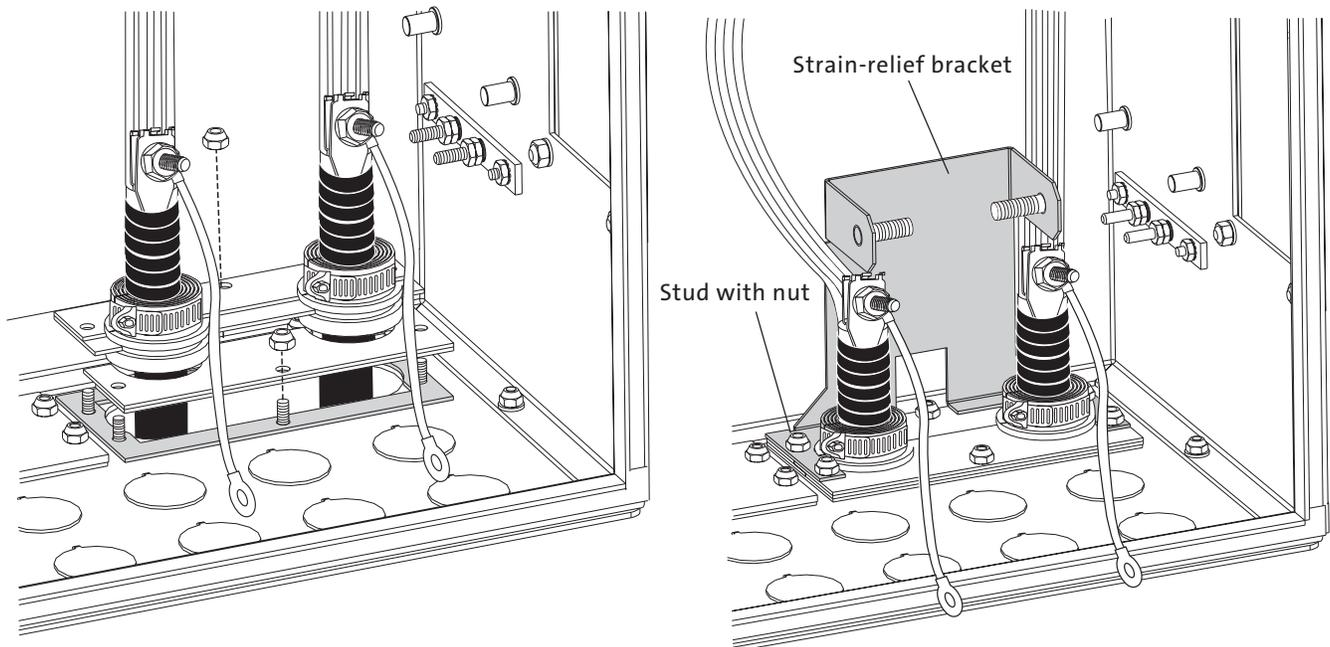

Figure 5
Step 2: Secure grommets around cables using hose clamps (Figure 5).
Step 4: Slide the slip plates into the channels on the edges of the grommets. (The slip plates are interchangeable.) Fasten slip plates together using the two center nuts (Figure 5).